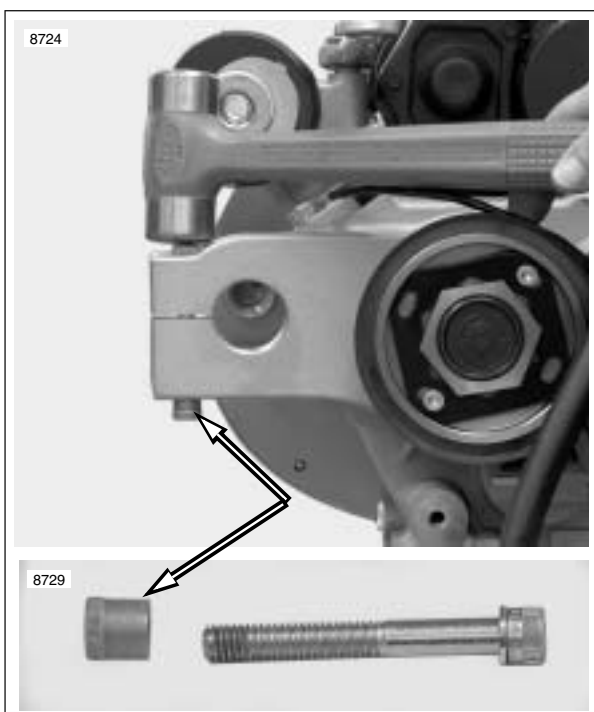

Figure 3-27. Removing Threaded Insert
- See Figure 3-27. Swingarm pivot shaft pinch bolt threaded insert.